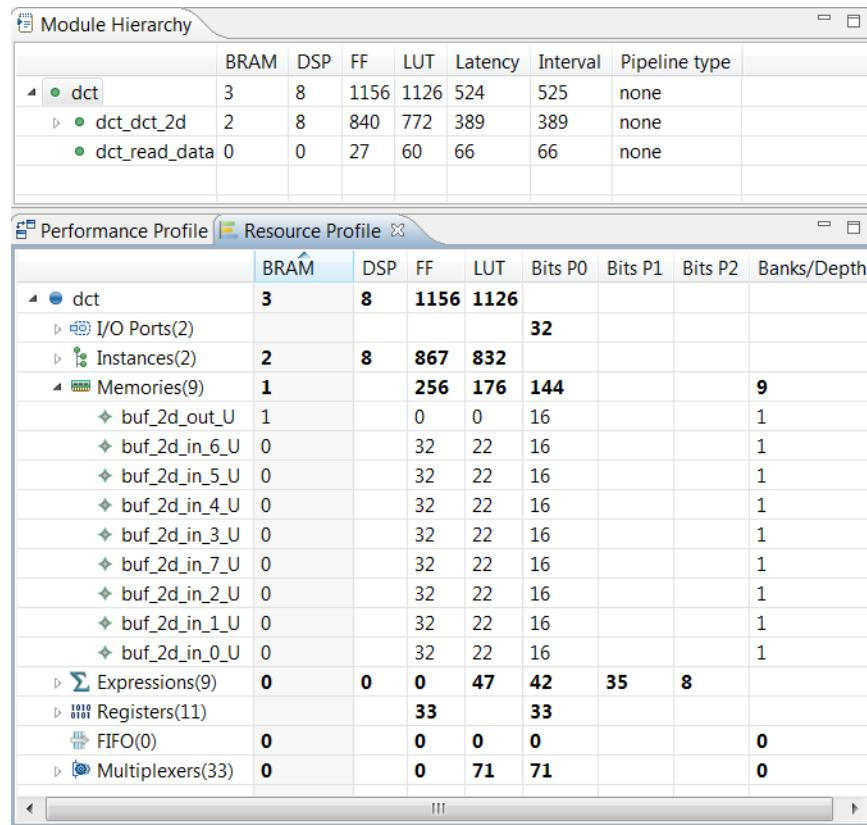

Figure 6-28: DCT Resource Profile
11. Expand the **Memories and Expressions** see the view in Figure 6-28.